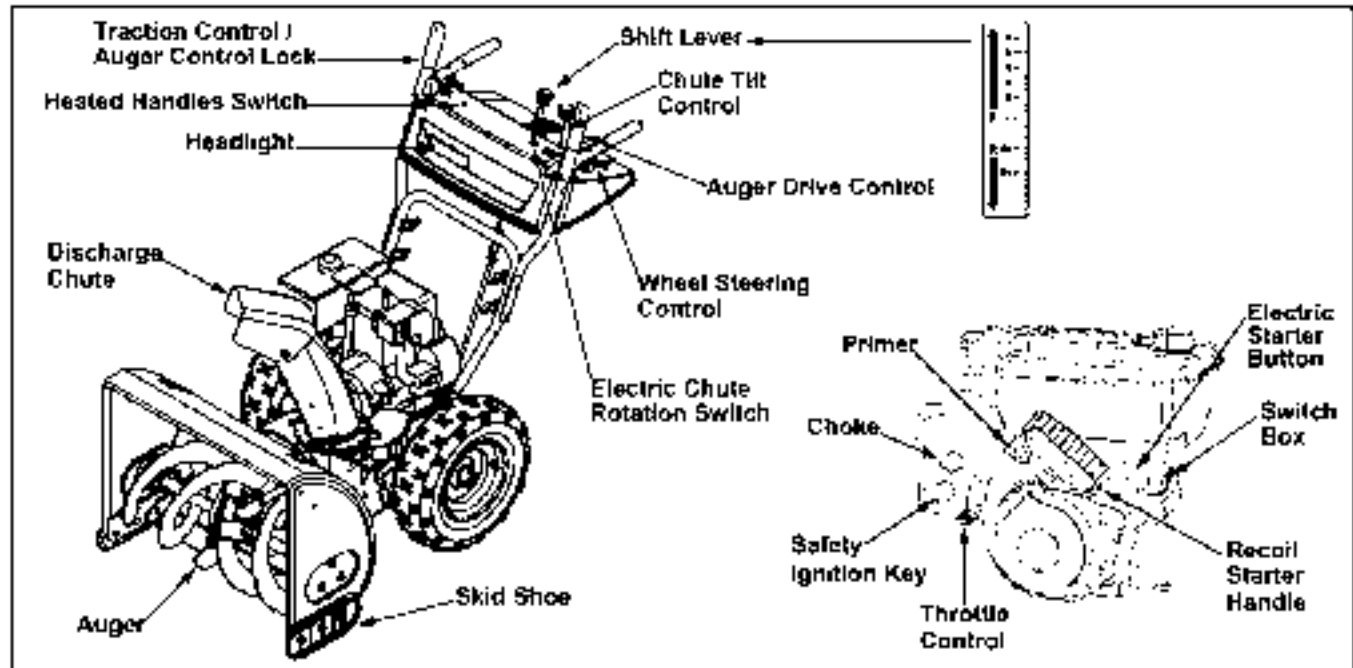

Figure 7
- Move the shift lever into sixth (6) position.
- a. With the traction control (refer to Figure 7) released, squeeze in triggers and gently push the snow thrower forward, then pull it back. Disregarding the overall weight of the snow thrower, the machine should otherwise move freely.
The traction control is located on the right handle. Squeeze the traction control to engage the wheel drive. Release to stop. See Figure 7.
The auger drive control is located on the left handle. Squeeze the control grip to engage the augers. Release to stop the snow throwing action. (Traction control must also be released.) See Figure 7.
The distance snow is thrown can be changed by adjusting the angle of the chute assembly. Move the chute tilt control forward to decrease the distance, toward the rear to increase. See Figure 7.
The position of the skid shoe is determined by the condition of the ground from where snow has to be removed. See Figure 7.
The shift lever is located in the center of the handle panel and is used to determine both ground speed and direction of travel. It can be moved into any of eight positions. See Figure 7.
The electric chute-rotation switch is located on the left side of the snow thrower dash panel. See Figure 7. To change the direction in which discharged snow is thrown, proceed as follows:
The left and right wheel steering controls are located on the underside of the handles and are used to assist in steering the snow thrower. Squeeze the right wheel steering control when turning right, squeeze the left control when turning left. Operate your snow thrower in open areas until you become familiar with these controls. See Figure 7.
The throttle control is located on the engine. It regulates the speed of the engine and will shut off the engine when pushed down completely. See Figure 7.
The safety ignition key must be fully inserted in the switch before the unit will start. Remove the ignition key when the snow thrower is not in use. See Figure 7.
- Move throttle control up to FAST position. Insert ignition key into slot. See Figure 7. Be certain it snaps into place. Do not turn key.